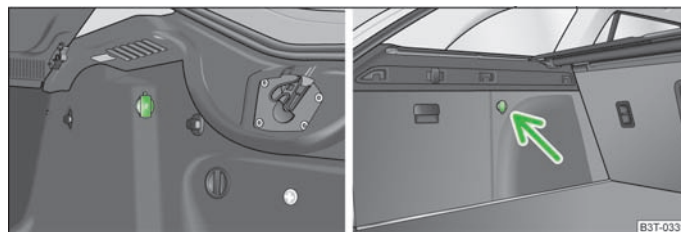

Fig. 87 Luggage compartment: Power socket/luggage compartment: Power socket (Combi)
- In the luggage compartment » Fig. 87.